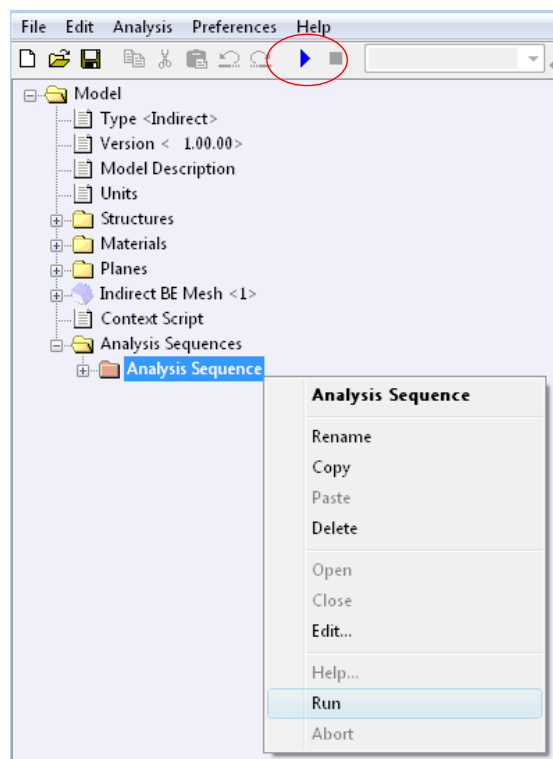

Figure 7.3: Run new analysis sequence.
- **Run an Analysis Sequence.** To run acoustic analysis right-click on the desired analysis sequence and select **Run**. You could also run a selected analysis sequence from the Main menu: **Analysis** → **Run** or by clicking on the blue run button (Figure 7.3). Make sure *Coustyx* model setup is completed before running the analysis.